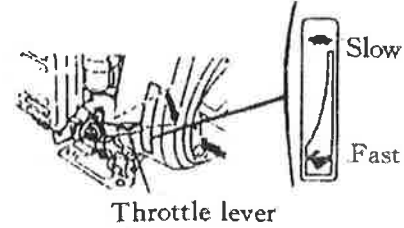

Fig.8
3. Move down the throttle lever slightly to the FAST position (Fig.8).